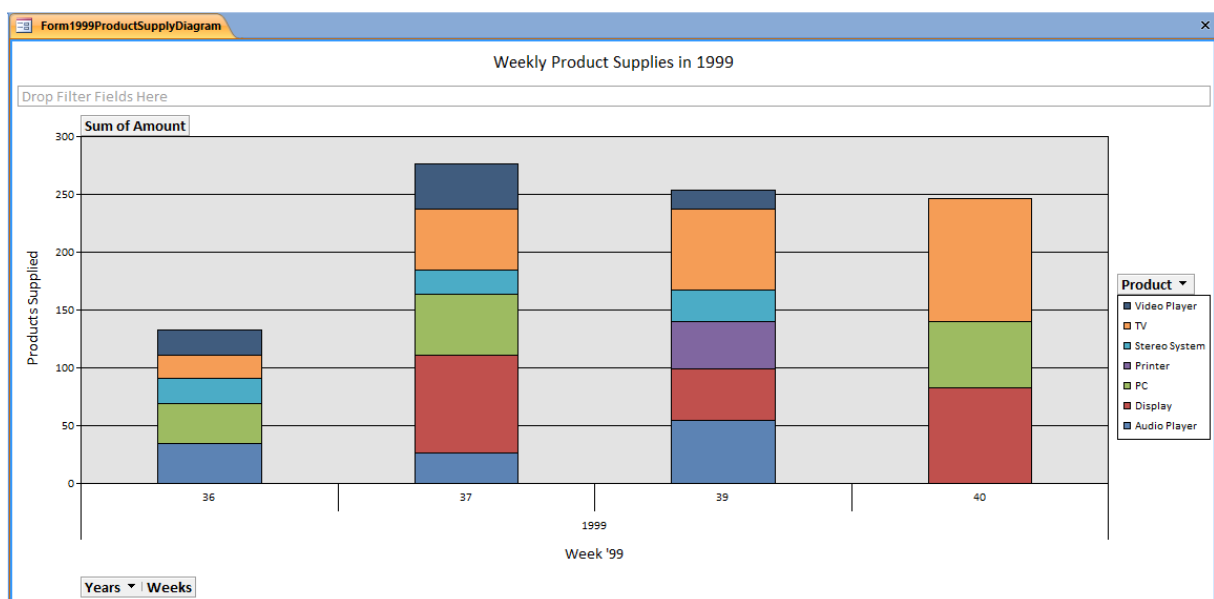

Figure 6.5
4. To present query results using a stacked column chart, select the appropriate chart type using the “Type” tab in “Properties” window (figure 6.5).